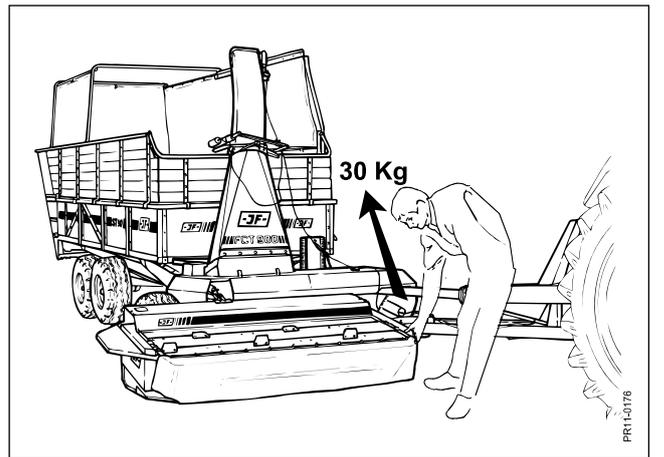

Fig. 3.9
**Fig. 3.9** a maximum of 30 kg on the ground.